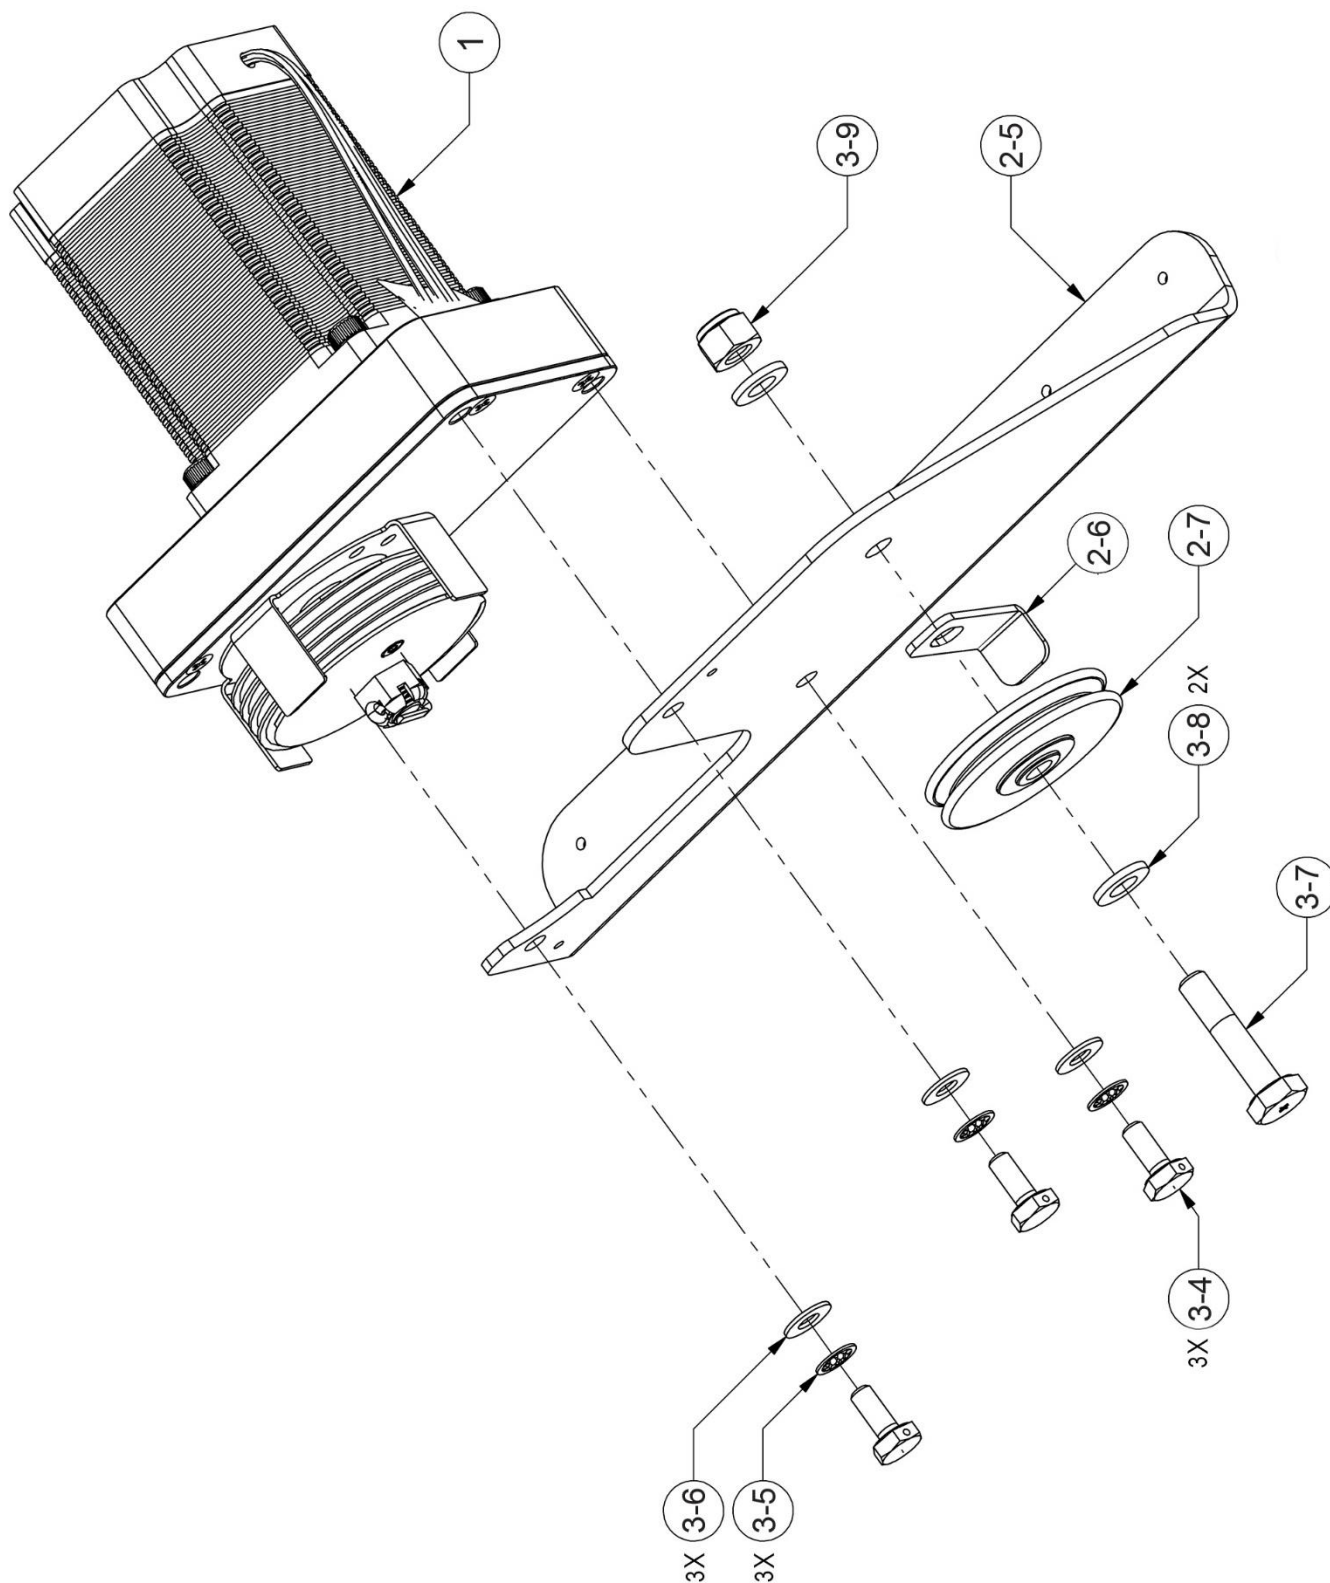

Figure 21: Pitch Servo Vertical Bracket Assembly
6. Remove pitch servo assembly from vertical bracket assembly (see Figure 21).
1. Attach pitch servo to vertical bracket assembly (see Figure 21).